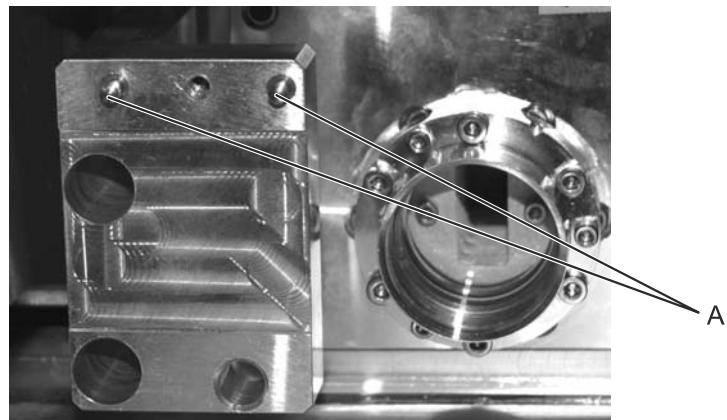

Figure 115: Attaching the energy monitor
11. Insert the energy monitor into the laser device and carefully attach it onto the two locating pins (see Figure 115, A).